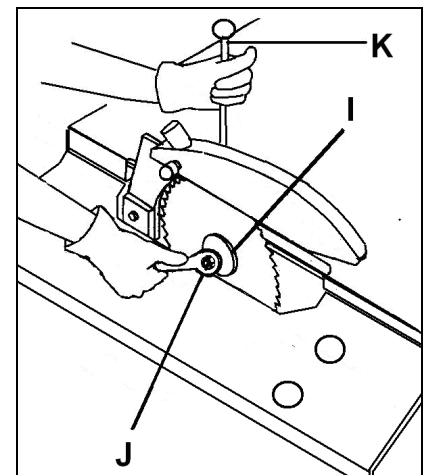

Fig 15
Loosen the arbor nut (J, Fig 15) while stopping the arbor against rotation with the locking pin (K).